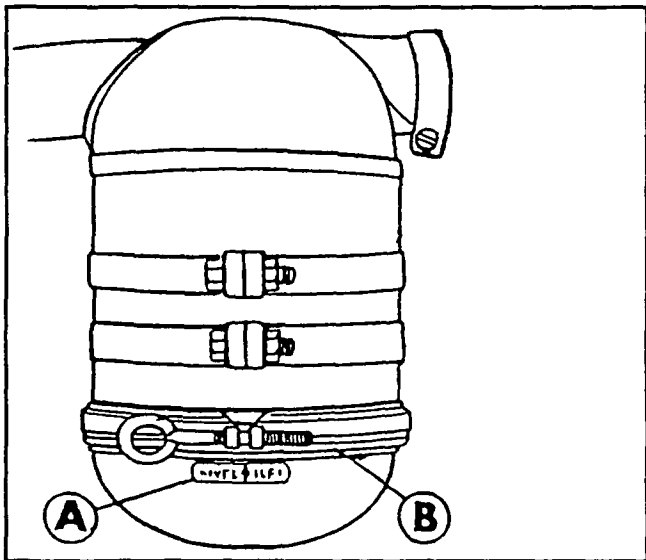

Fig. 58 - Air Cleaner
SERVICING THE AIR CLEANER (Ref. Fig. 58)
2. Loosen the vent plug on the top of the secondary fuel filter (5), and stroke the lift pump lever until the fuel flows out of the vent, free of trapped air. Tighten the vent plug.
3. Loosen the lower vent plug (2) on the injection pump, and stroke the lift pump lever until fuel flows out the vent; again, free of air. Tighten the vent plug. Loosen the upper vent plug (item 8, on the back of the injection pump) only by two turns.
4. Loosen the injector lines at the injectors (Ref. Fig. 58). Crank the engine with the starter motor until the fuel flows free without any pockets of air at each connection.